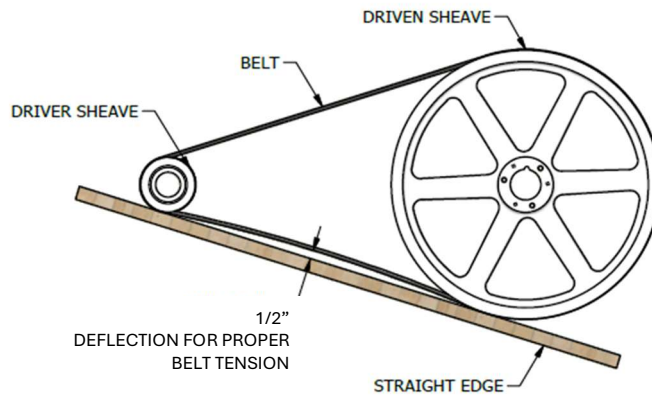

Figure 51: Belt deflection
3. Using your hand, apply a moderate force of approximately 16-20 lbf (71-89 N) evenly across the width of the belt in the center of the belt span between the sheaves. If the belt deflects between $\frac{1}{2}$ " (13 mm) as shown in **Figure 51**, then the belt tension is adequate. Belt tension may also be verified using a sonic belt tension meter with the recommended belt tension frequency range at 15-18 Hz.